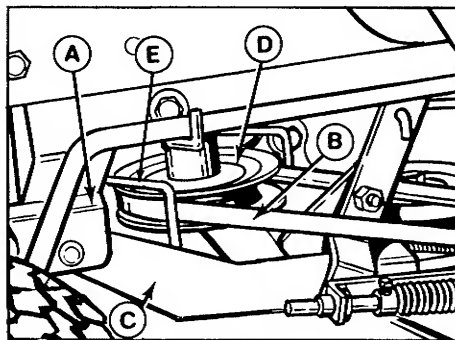
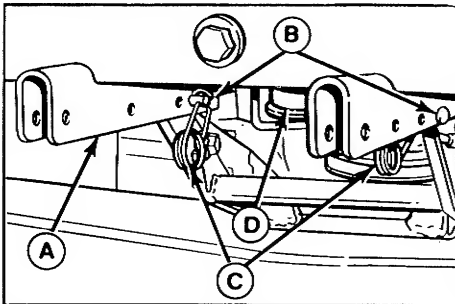
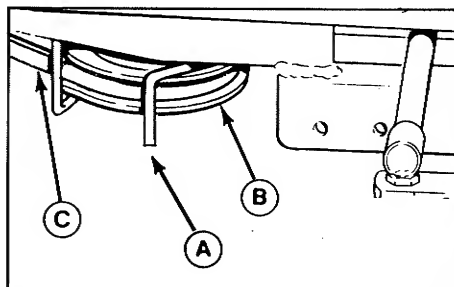

Figure 3. L.H. PTO Pulley Belt Stop
Figure 4. Mower Hitch Attached
Figure 5A. R.H. PTO Pulley Belt Stop
7. Position the mower hitch arms (C, figure 3) so they are underneath the rear holes in tractor hitch (A, figure 4). Lift up one side of mower with both hands
and align hole in mower hitch arm with rear hole in tractor hitch. When holes align, use one hand to insert a pin (B, figure 4) thru hitch. Go to the other side and insert the other pin. Install the two safety clips (C) in the pins.
- Slip the mower drive belt onto the Engine PTO pulley (D, figure 3). Loosen the belt stops if necessary. The left-hand belt stop is item E in figure 3. The right-hand belt stop is item A in figure 5A.